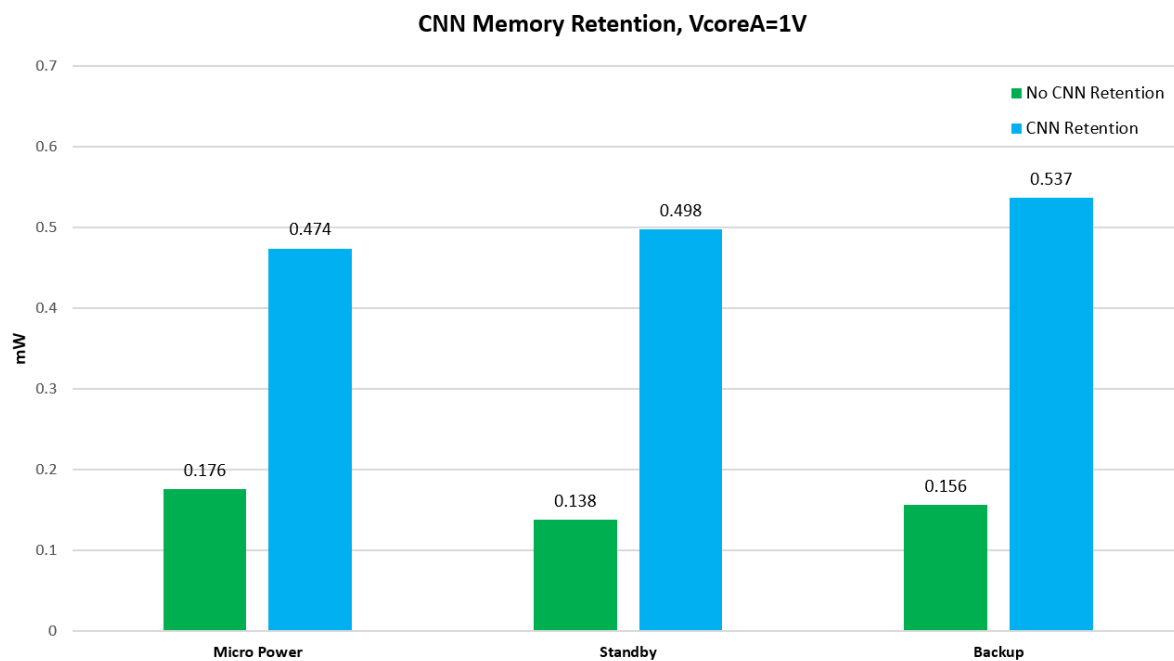

Figure 12: CNN memory retention power.
The following code snippet shows how to enable the CNN RAM retention for UPM, BACKUP, or STANDBY. Once CNN memory retention is configured, the weights are maintained. For every activity cycle, only bias and CNN configuration are reloaded, and new inference is performed on new input data. **Figure 12** shows the power consumption in different modes with or without CNN memory retention. The effect of disabling the CNN clock is also reported.
- If the duty cycle of activity is not very low, load kernels (weights) once and retain them in memory to avoid reloading energy in UPM, BACKUP, and STANDBY modes. Otherwise, consider the energy of reloading the weights in every activity cycle. See **Figure 12** for CNN memory retention energy.